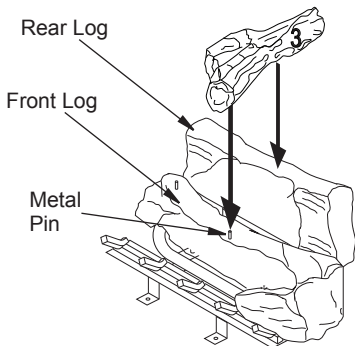

Figure 43 - Installing Log No. 3
- Place log #3 (crossover log) onto front log. Make sure it is seated properly on surface of rear log and pin on front log as shown in Figure 43.